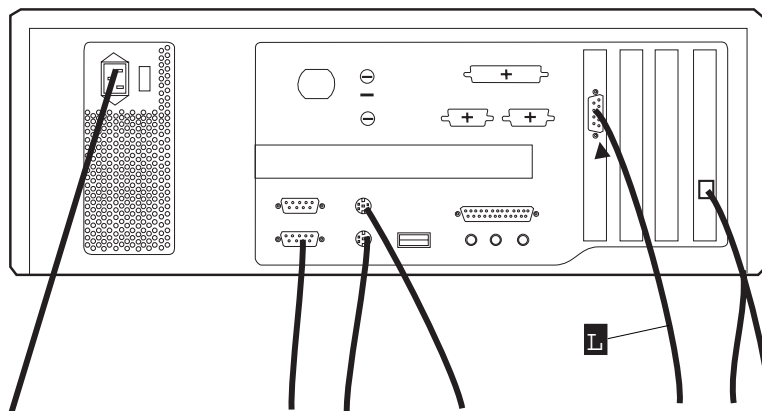

Figure 6-3. Display Connection to the NAS
3. At the rear of the Nways Switch administration station, connect the display signal cable **L** (see Figure 6-3).